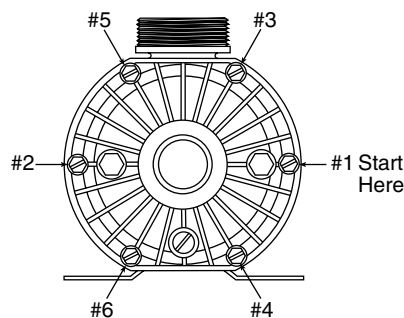

Figure 18: Pump front Plate Torque Sequence.
9. Install front plate (Key No. 13). Tighten cap screws in sequence as shown in Figure 18; tighten to 30 inch-lbs. (34.5 cm-kg.) torque.